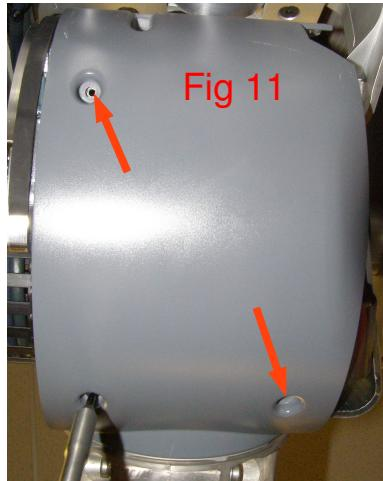

Fig 11
2. Using the 2.5mm bit with the T-handle driver, remove 3 Panhead screw. 2085-10 (Fig 11)